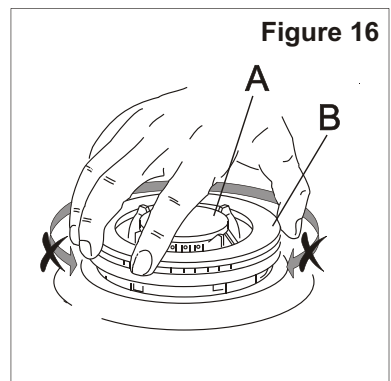

Figure 16
- The burner correctly positioned must not rotate (fig. 16).
- Then position the cap "A" and the ring "B" (fig. 16).